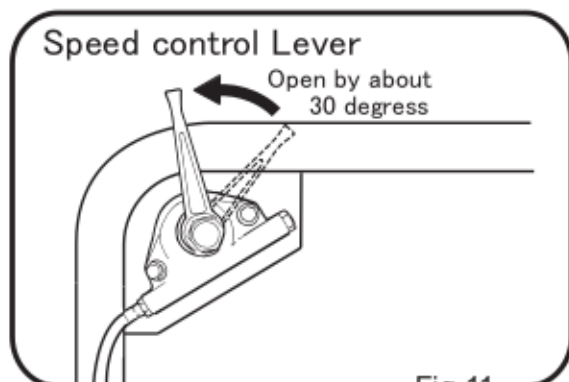

Fig.11
- 2 Open the speed control lever to about 30° for the idling position. (Fig.11)